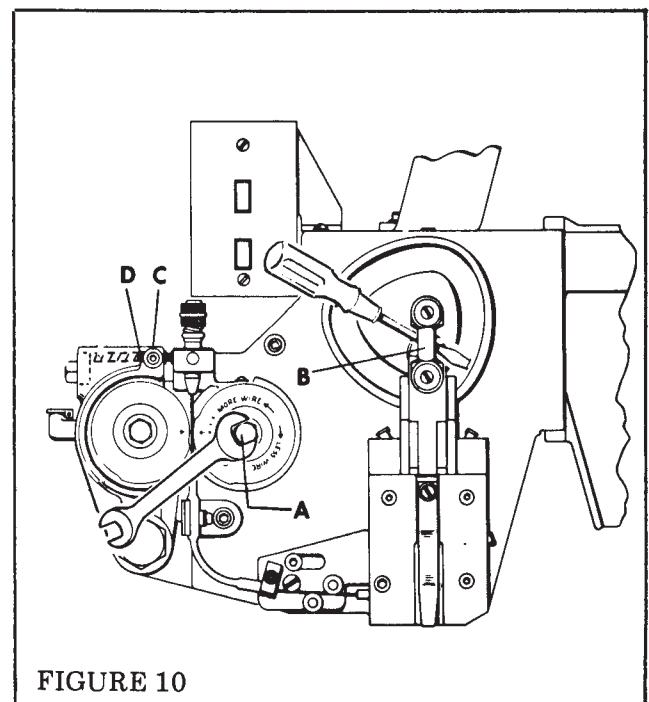

FIGURE 10
Turn off the motor and loosen the feed wheel screw (Index A, Figure 10). Since turning the screw will cause the gears to rotate unless held in place, it is necessary to apply clockwise pressure on a screwdriver inserted in the driver link (Index B, Figure 10). The feed wheel can now be turned as required. Usually a movement of $1/32''$ to $1/16''$ is sufficient. The bolt should be tightened while applying counterclockwise pressure on the screwdriver. This operation should be repeated until the length of the stitch legs is equal or not more than a $1/64''$ variation exists. If you are unable to get proper leg length, check spacing between the feed wheels.
(1) Loosen lock screw (Index C, Figure 10). (2) Turn set screw (Index D, Figure 10) to desired position. (3) Lock set screw by tightening lock screw. (4) Turn flywheel until formers and driver are at the highest point of their stroke. Occasionally, a groove is worn in one or both of the feed wheels. This causes the wire to slip and results in uneven leg lengths.